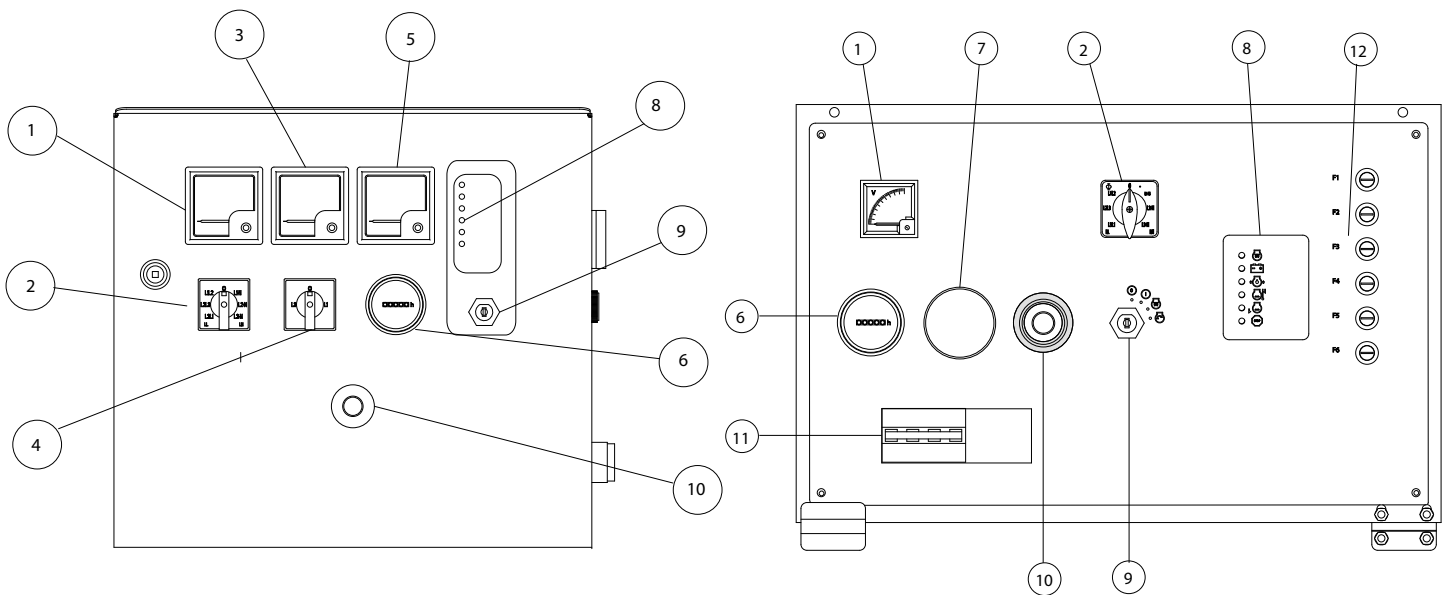

Figure 5a – Layout of 1002T Series and LCP1002 Control Panel
Figure 5a shows typical diagrams of each of the control panels. The addition of optional equipment will add items to the panel so the panel fitted on the generator set may be slightly different from the typical ones shown. The following descriptions explain the function of each item on the panels:
- In the event of low battery voltage the LED will indicate on the 1002T PCB (see Figure 5a – 8). There is no battery voltmeter on 1002T panel.